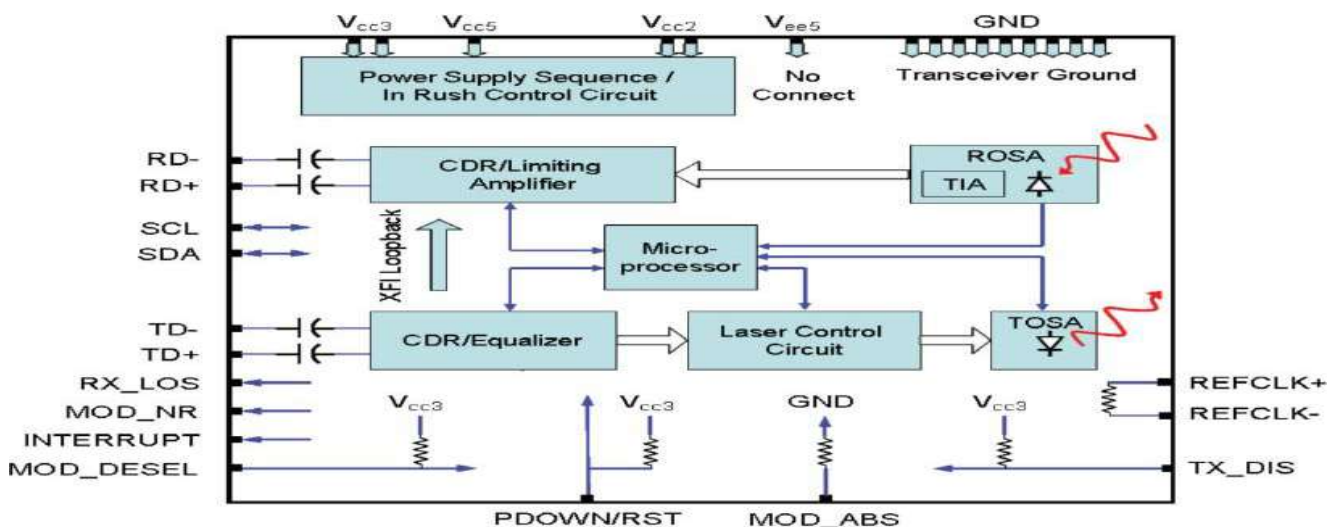

Figure 1. Functional block diagram
The Alpha Bridge Technologies tunable XFP optical transceiver is a full-duplex serial electric, serial optical device with both transmit and receive functions contained in a single module that provides a high-speed serial link at signaling rates from 9.95 Gbps to 11.35 Gbps. It is designed to be compliant with the ITU-T G.698.1 DN50S-2D2(C) standard with 50 GHz ITU grid channel spacing for 80 km reach (SONET or SDH), IEEE 10GBASE-ZR and 10GBASE-ZW DWDM for 80 km reach (Ethernet), and 10GFC DWDM for 80 km reach (Fibre Channel) applications. The transceiver is also fully compliant with the 10 Gigabit small form factor XFP pluggable module multisource agreement INF8077i Rev. 4.5. A block diagram of the transceiver is shown in Figure 1.